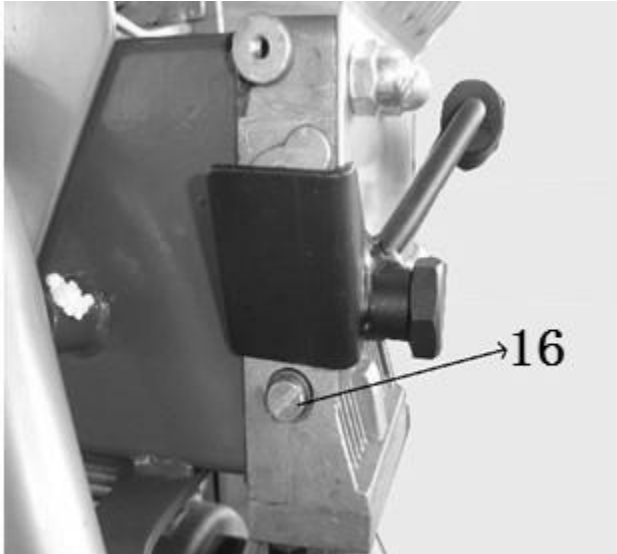

Fig. 8
LIMITING SCREW (16) IN FIG. 8!**